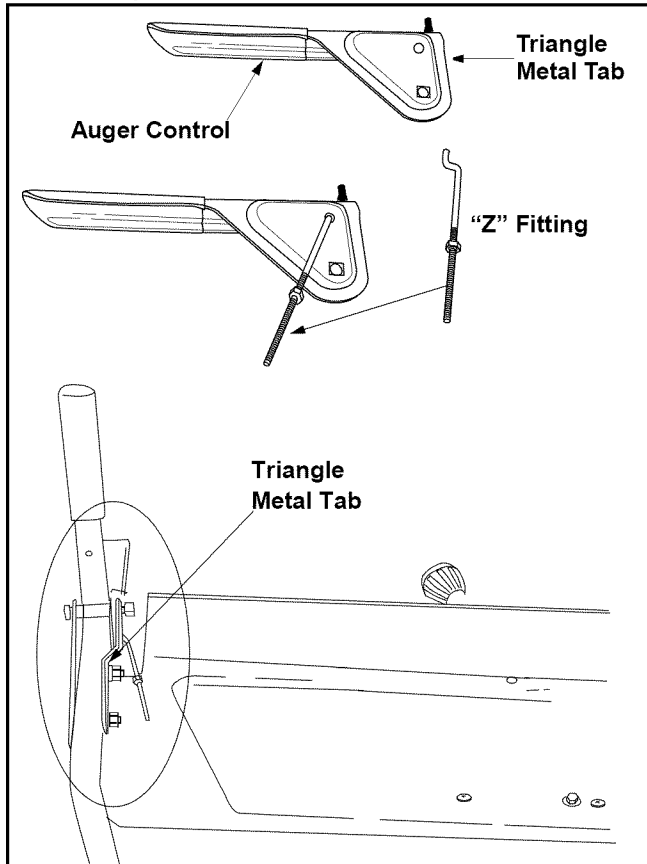

Figure 6
- Insert curved end of the Z fitting into the top hole in the triangular metal tab on the auger control grip. The triangular metal tab on the auger control grip must face the center of the handle panel. See Figure 6.
- Place the auger control on top of the left handle. The triangular metal tab must be between the handle and the bracket. See Figure 6.